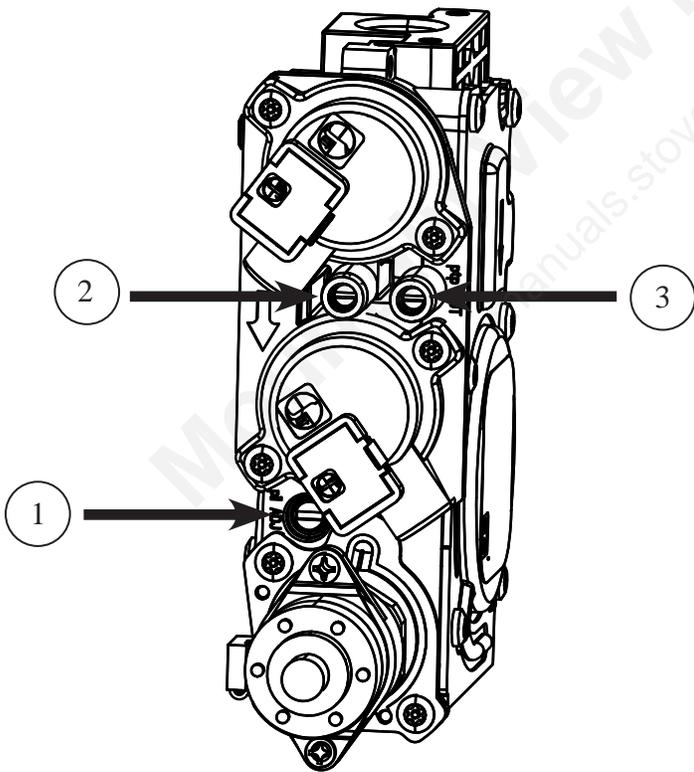

Figure 36: Valve Details.
The pressure taps are located on the front side of the valve (see Figure 36).
1. The adjustment screw can be reached through the front of the unit using a 10 inch long blade head screw driver (see Figure 36 for location on valve).